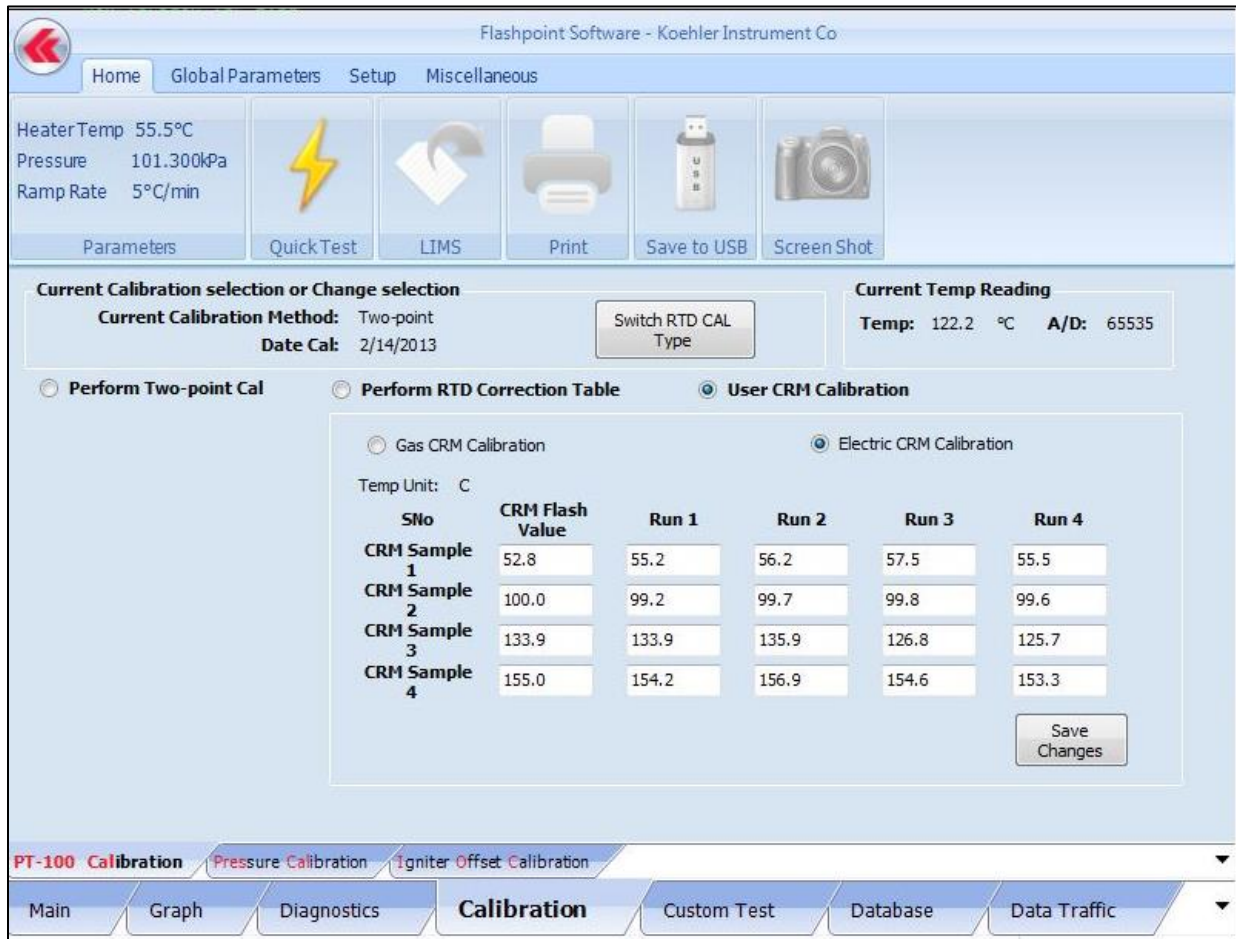

Figure 20: Calibration Screen (Electric CRM Calibration)
**User CRM Calibration\_Electric CRM Calibration** as shown in **Figure 20** below is a user defined table that allows for the input of flash point values of up to four (4) Certified Reference Material (CRM) samples using the Electrical Ignition Source.